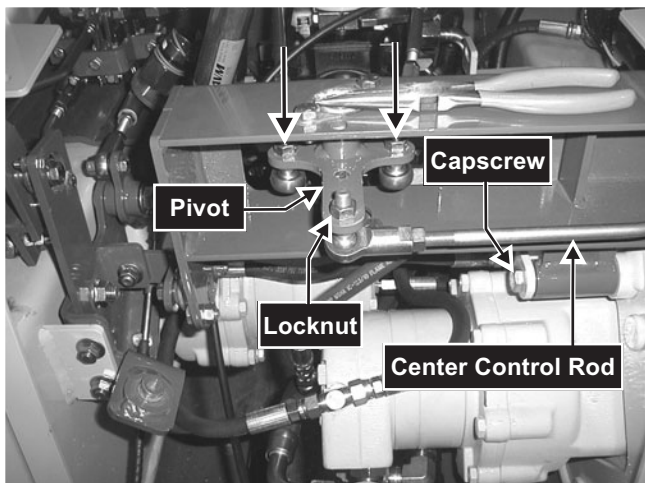

Fig. 6-20 Location of locknuts on studded rod ends connecting hydrostatic pump arms to pivot.
3. Remove locknuts on rod ends attaching hydrostatic pump arms to pivot weldment. **Fig. 6-20**
8. Remove capscrew securing lower left portion of dual control weldment to mainframe. **Fig. 6-20**